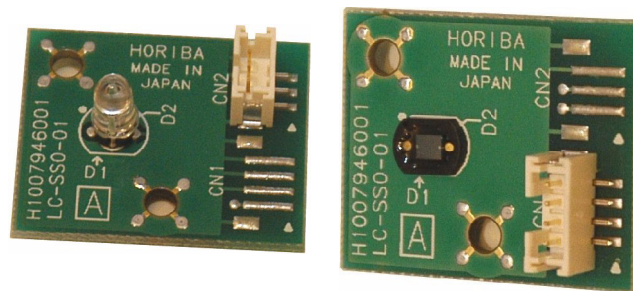

Fig.6: boards
- ◆ Unscrew the CHC screws then remove the LED board and the PD board (See “Fig.6: boards, page 3”).